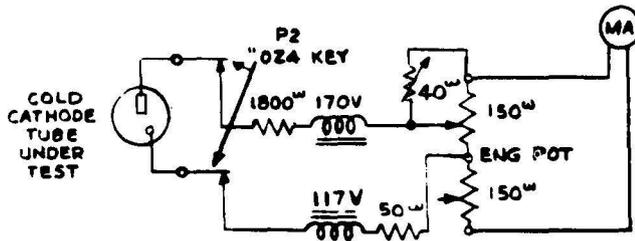

Fig. 5 - Cold Cathode Tube Test Circuit
2.22 When testing a cold cathode tube, the circuit (Fig. 5) is the same as described in Paragraph 2.19 except that two windings of the power transformers are employed in series, applying an a-c potential of 290 volts in series with a current limiting resistor to the tube under test.